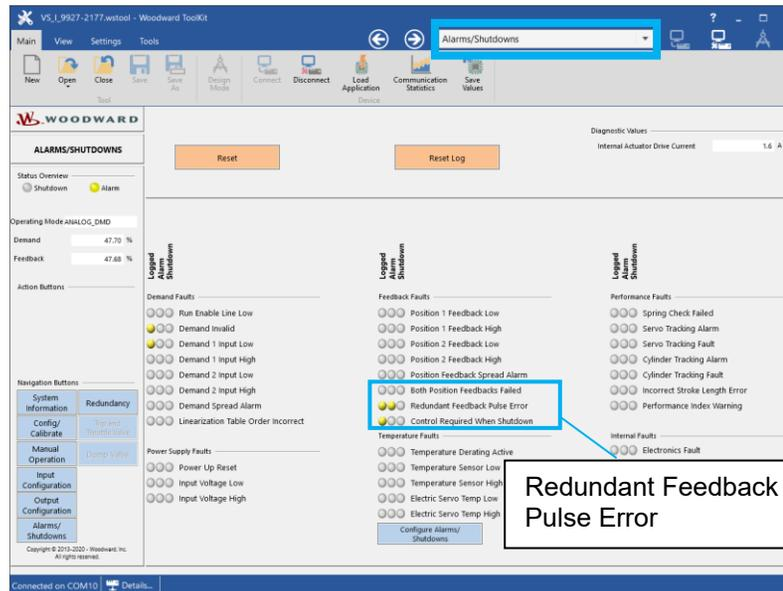

Figure 2-73. Redundant Feedback Pulse Error on the Alarms/Shutdowns Screen
- 55. On the Alarm/Shutdown screen, verify that the **Redundant Feedback Pulse Error** is currently active [notate result in Checklist: ID #19] (Figure 2-73).
57. On the Alarm/Shutdown screen, verify that Redundant Feedback Pulse Error is not currently active in the Alarm column [notate result in Checklist: ID #20] (Figure 2-73).